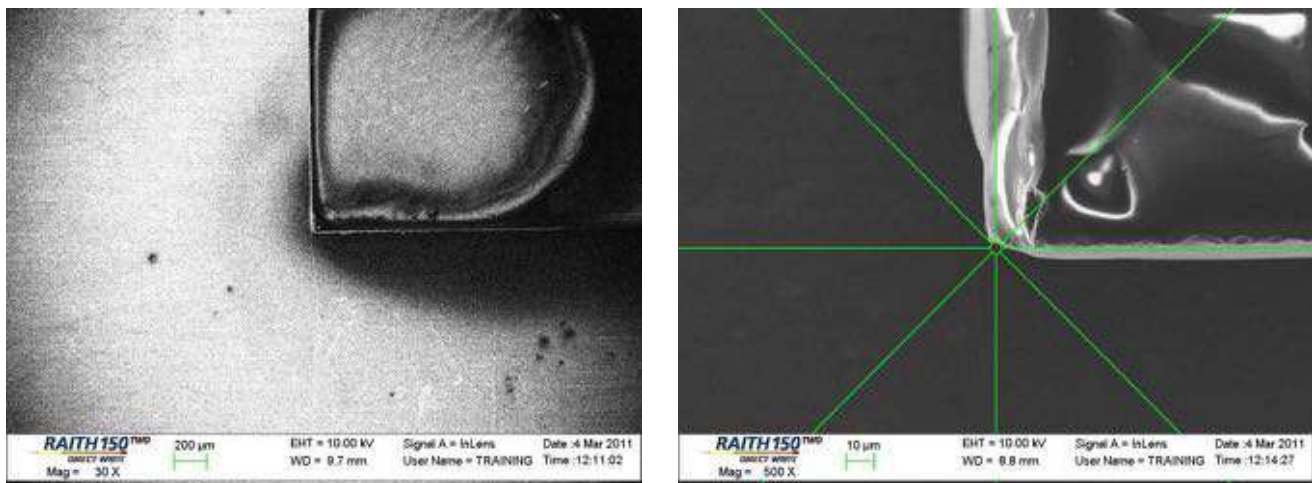

Figure 16 (a) Rough focus on sample, and (b) centering crosshair on bottom left corner at 500X magnification
14. To perform origin correction and sample alignment, obtain a **rough focus** on the sample. **Zoom** in to 500X magnification and **centre the crosshairs** on the bottom left corner of the sample (Fig. 16).